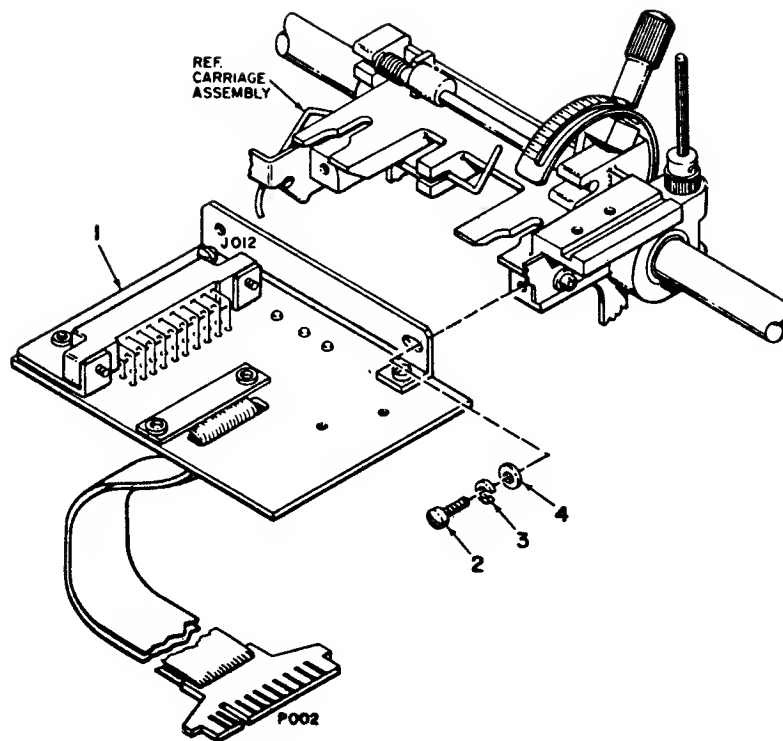

Figure 3-3A. KIT, VIDEO AMPLIFIER ASSEMBLY
3.5 VIDEO AMPLIFIER ASSEMBLY (Figure 3-3A)